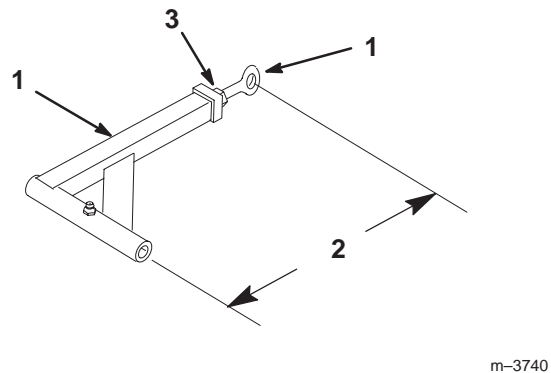

Figure 58
9. If the fixed idler contacts the end of the adjustment slot and more belt tension is required, a small change to lengthen the push arms can be made (Fig. 58).